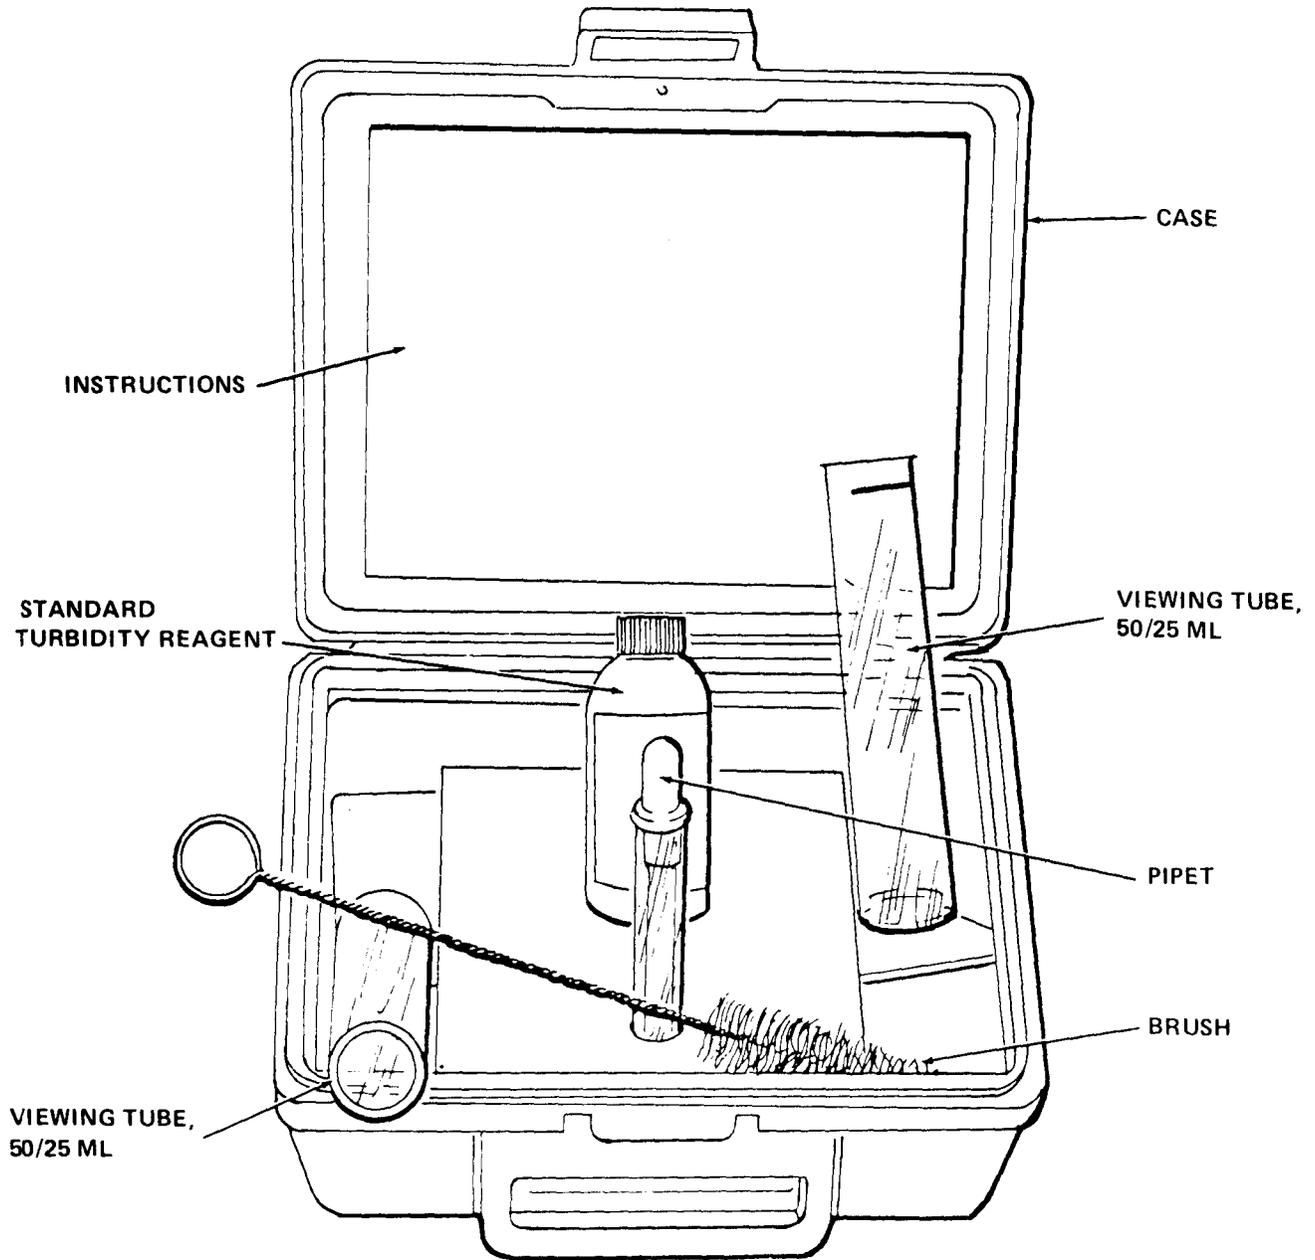

Figure 2-20. Turbidity Test Kit
i. Turbidity Test Kit (fig. 2-20).
(1) Turbidity interferes with color analysis. This test is made by comparing the turbidity of measured amount of the sample being analyzed with an identical amount of turbidity-free water to which an accurately measured amount of standardized turbidity reagent has been added. The readings are made by looking down through the column of liquid. If turbidity is present, it will interfere with the passage of light through the column of liquid. Small amounts of turbidity will cause a "blurring" of the black dot in the bottom of the tube. Large amounts of turbidity may provide sufficient "cloudiness" so that it is not possible to see the black dot when looking down through the column. Any color that may be present in the sample should be disregarded. This determination is concerned only with the haziness or cloudy nature of the sample.